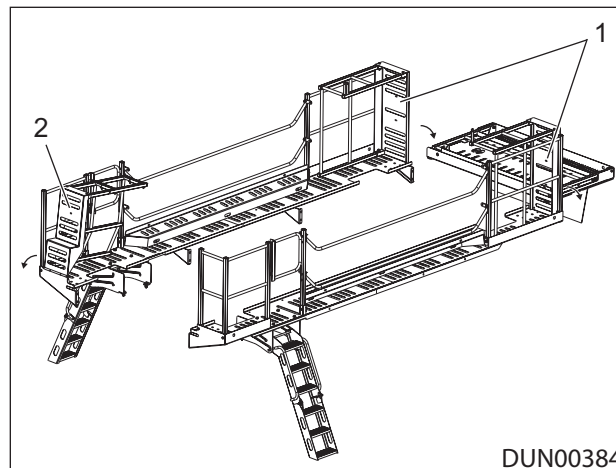

Figure 6.11 - Maintenance Platform Handrail Sections in the Transport Position
3. Rotate the handrail section (item 2) down into the working position, Ref: Figure 6.11.
4. Rotate the handrail sections (item 1) on both sides of the machine down into the working position, Ref: Figure 6.11.